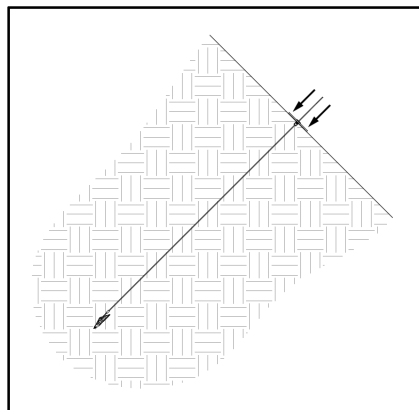

Figure 26: Slide Plate
5. Slide the load bearing plate down the anchor tendon towards the slope surface using your hands (Figure 26).